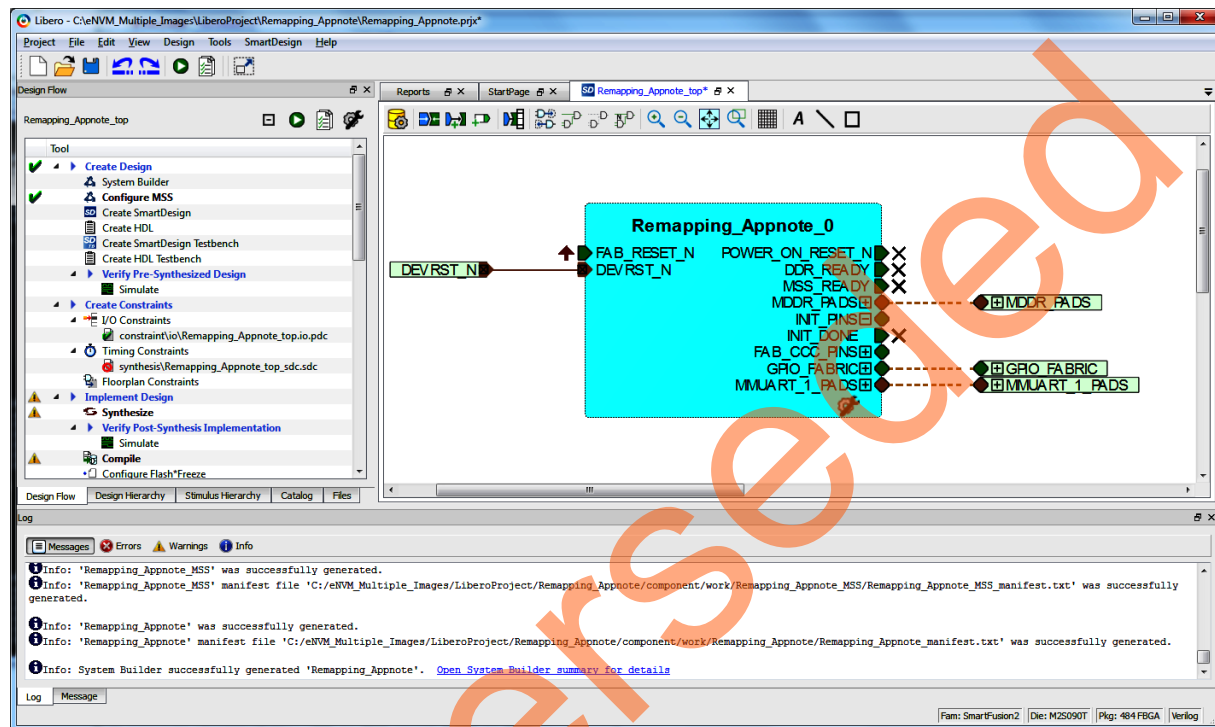
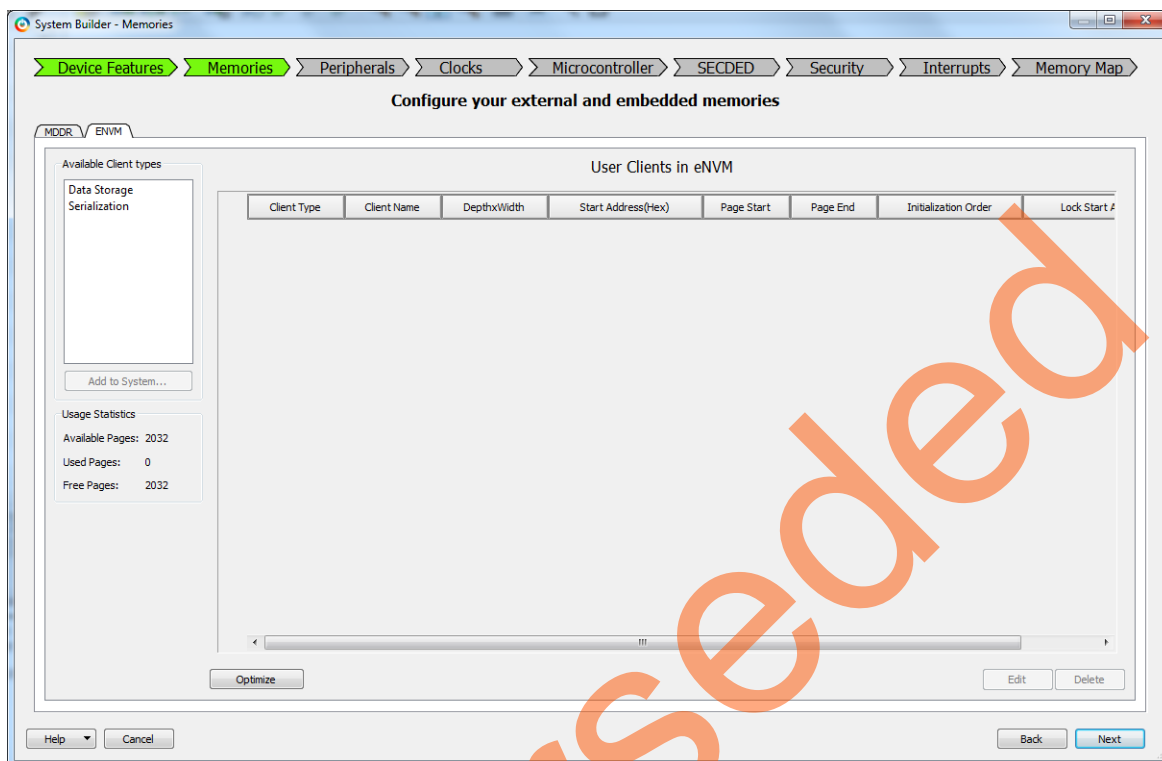
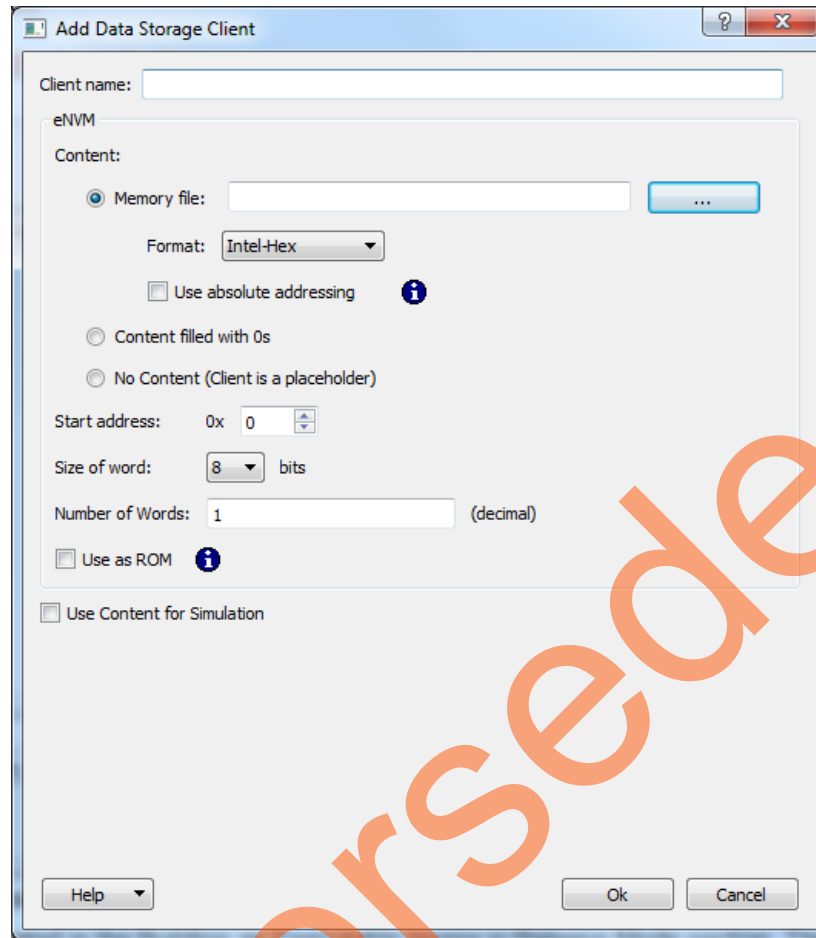

Figure 38 • Remapping_Appnote_top Tab
Figure 39 • System Builder - Memories Page
Figure 40 • Add to Data Storage Client Window
2. Double-click **Remapping_Appnote_0** and go to **System Builder - Memories** page to add the eNVM Data Storage client as shown in Figure 38 and Figure 39 on page 32.
3. Select **Data Storage** under the **Available Client types** and click **Add to System...**, see Figure 39. This opens **Add to Data Storage Client** window as shown in Figure 40 on page 33.